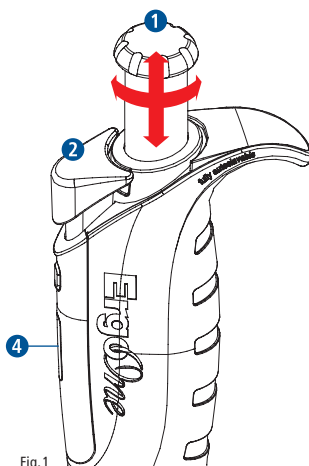

Fig.1
Unlock the volume adjustment catch by pulling up the volume control button ❶ (Fig. 1), until you hear a click. Turn the volume control button ❶ clockwise to reduce the aspirated volume, or counter clockwise to increase it. The set volume is shown in the four-digit volume display ❷ from top to bottom. The white line indicates the decimal point. When increasing the volume setting, pass the required value by 1/3 of a turn and then slowly decrease to reach the volume, making sure not to go beyond the required volume. After the volume is set, push the volume control button ❶ back to the locked position until you hear a click. The pipette is now ready to use.